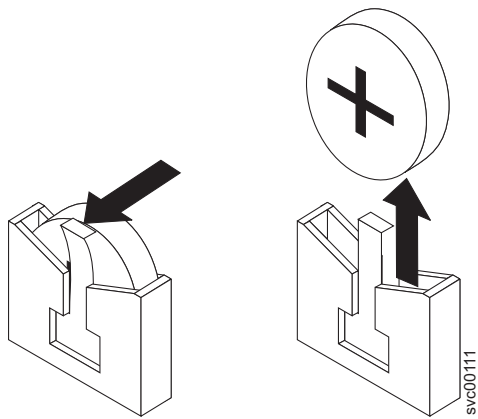

Figure 135. CMOS battery holder
- a. Use one finger to pull the retainer tab, which is shown in Figure 135, that secures the battery to its housing.